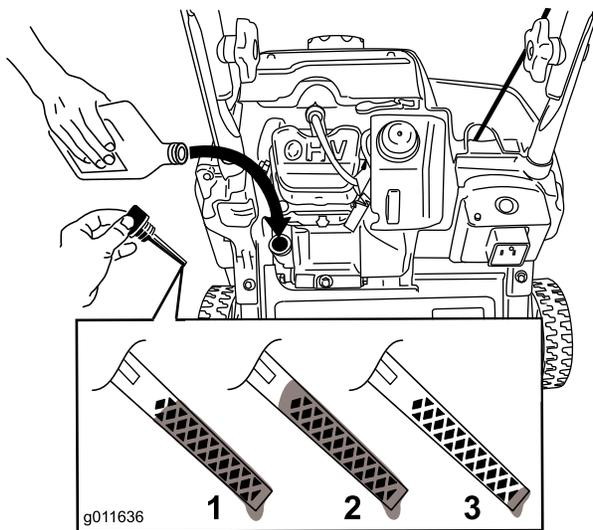

Figure 7
2. Clean around the oil fill cap (Figure 7).
**Note:** To determine the proper oil level on the dipstick, refer to Figure 7.
**Note:** Fill the engine crankcase with oil until the dipstick indicates that the engine oil level is correct as shown in Figure 7. If you overfill the engine with